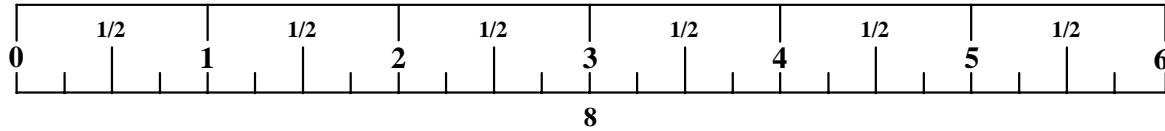

**FIGURE 6**
- Securely fasten the BACK PAD (9) to the LEFT (5) and RIGHT (6) BACK PAD ANGLES using four 3/8 X 1" BOLTS (18) and four 3/8" FLAT WASHERS (23) as shown in FIGURE 6.
- Securely fasten the SEAT PAD (10) to the HINGE TABS (13) using two 3/8 X 1" BOLTS (18) and two 3/8" FLAT WASHERS (23) as shown in FIGURE 6.
- Securely tighten the four connections on the 1/4 X 2 X 16-1/2" PLATES (4), then back nuts off 1/4 of a turn or until the BACK PAD (9) adjusts easily.